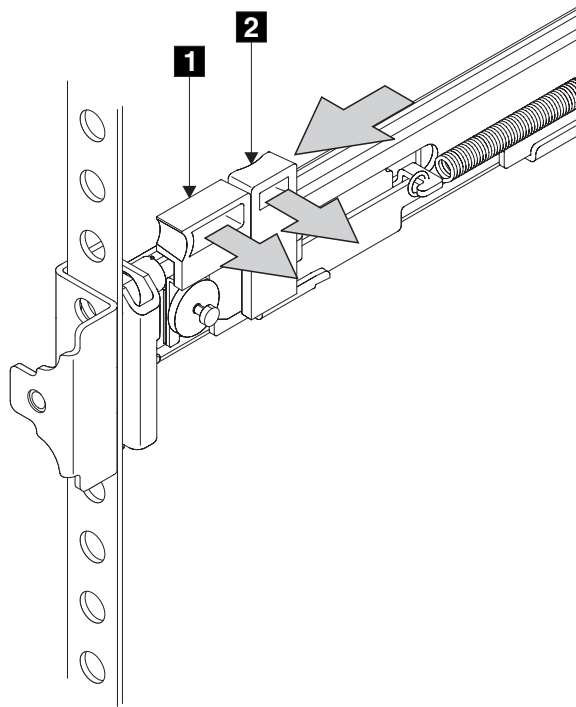

Figure 67. Closing the latch-lock carrier assembly
8. Push the latch lock **2** (Figure 67 on page 81) away from the rail to release the carrier. The latch-lock carrier slides toward the front of the rack and the locating pins project through the holes that are in the front flange and in the front rail bracket.